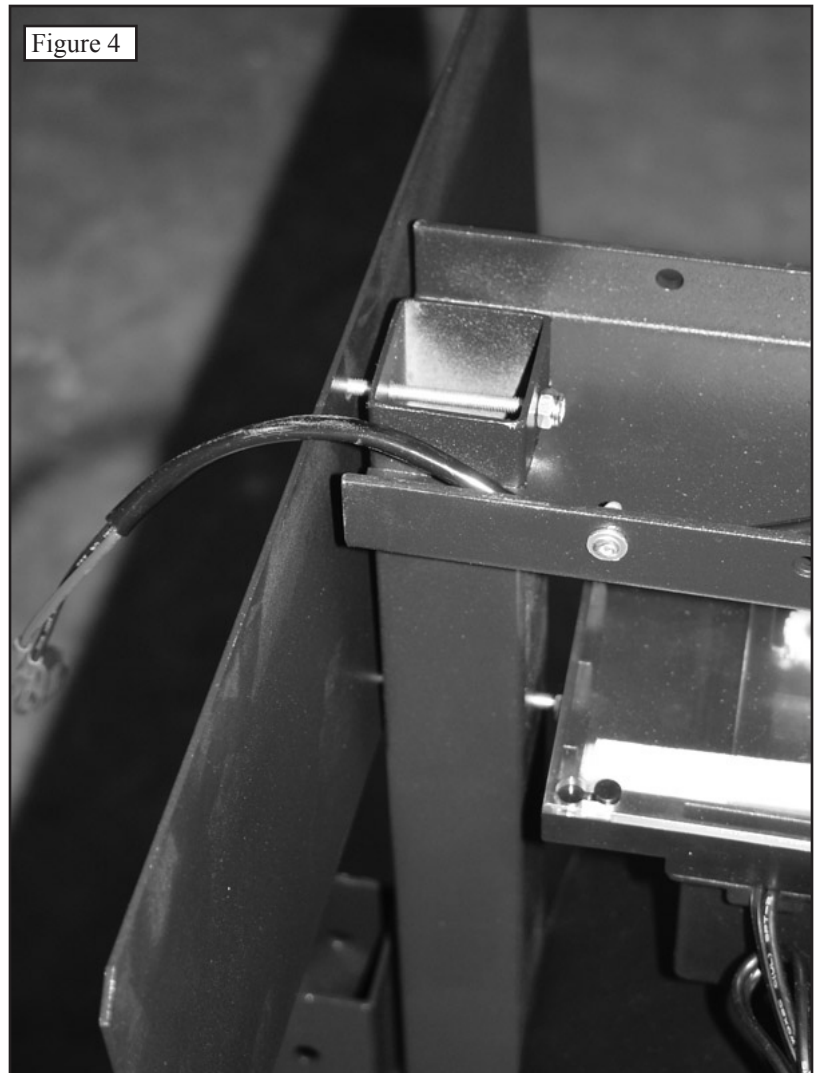

Figure 4
Step 2. Attach the Seed guard to the Spreader frame as shown in **Figure 4**.